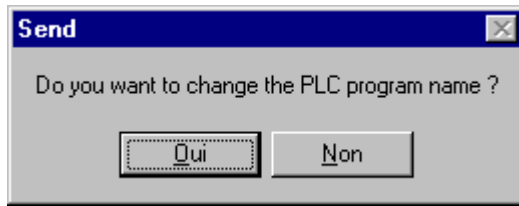

Figure 2-17 : Message 1 when sending the program to the PLC
- ⇒ Reply "Yes" to the first message "Do you want to change the PLC program name?" (Figure 2-17).